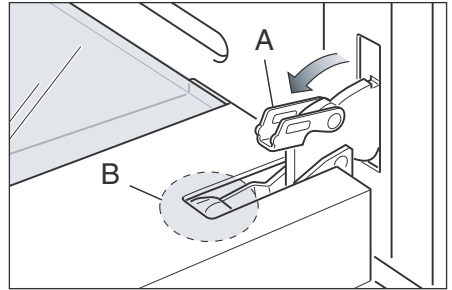
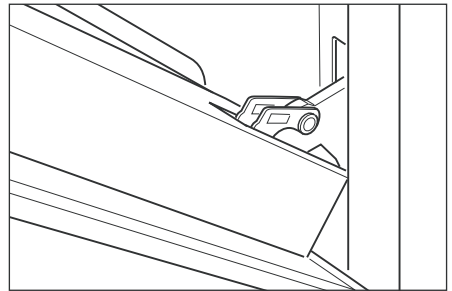

Fig. 25b
Fig. 25c
- Fully open the oven door (Fig. 25b).
- Fully open the lever "A" on the left and right hinges, (Fig. 25b).
- Gently close the door (Fig. 25c) until the left and right hinges are hooked to part "B" of the door (Fig. 25b).